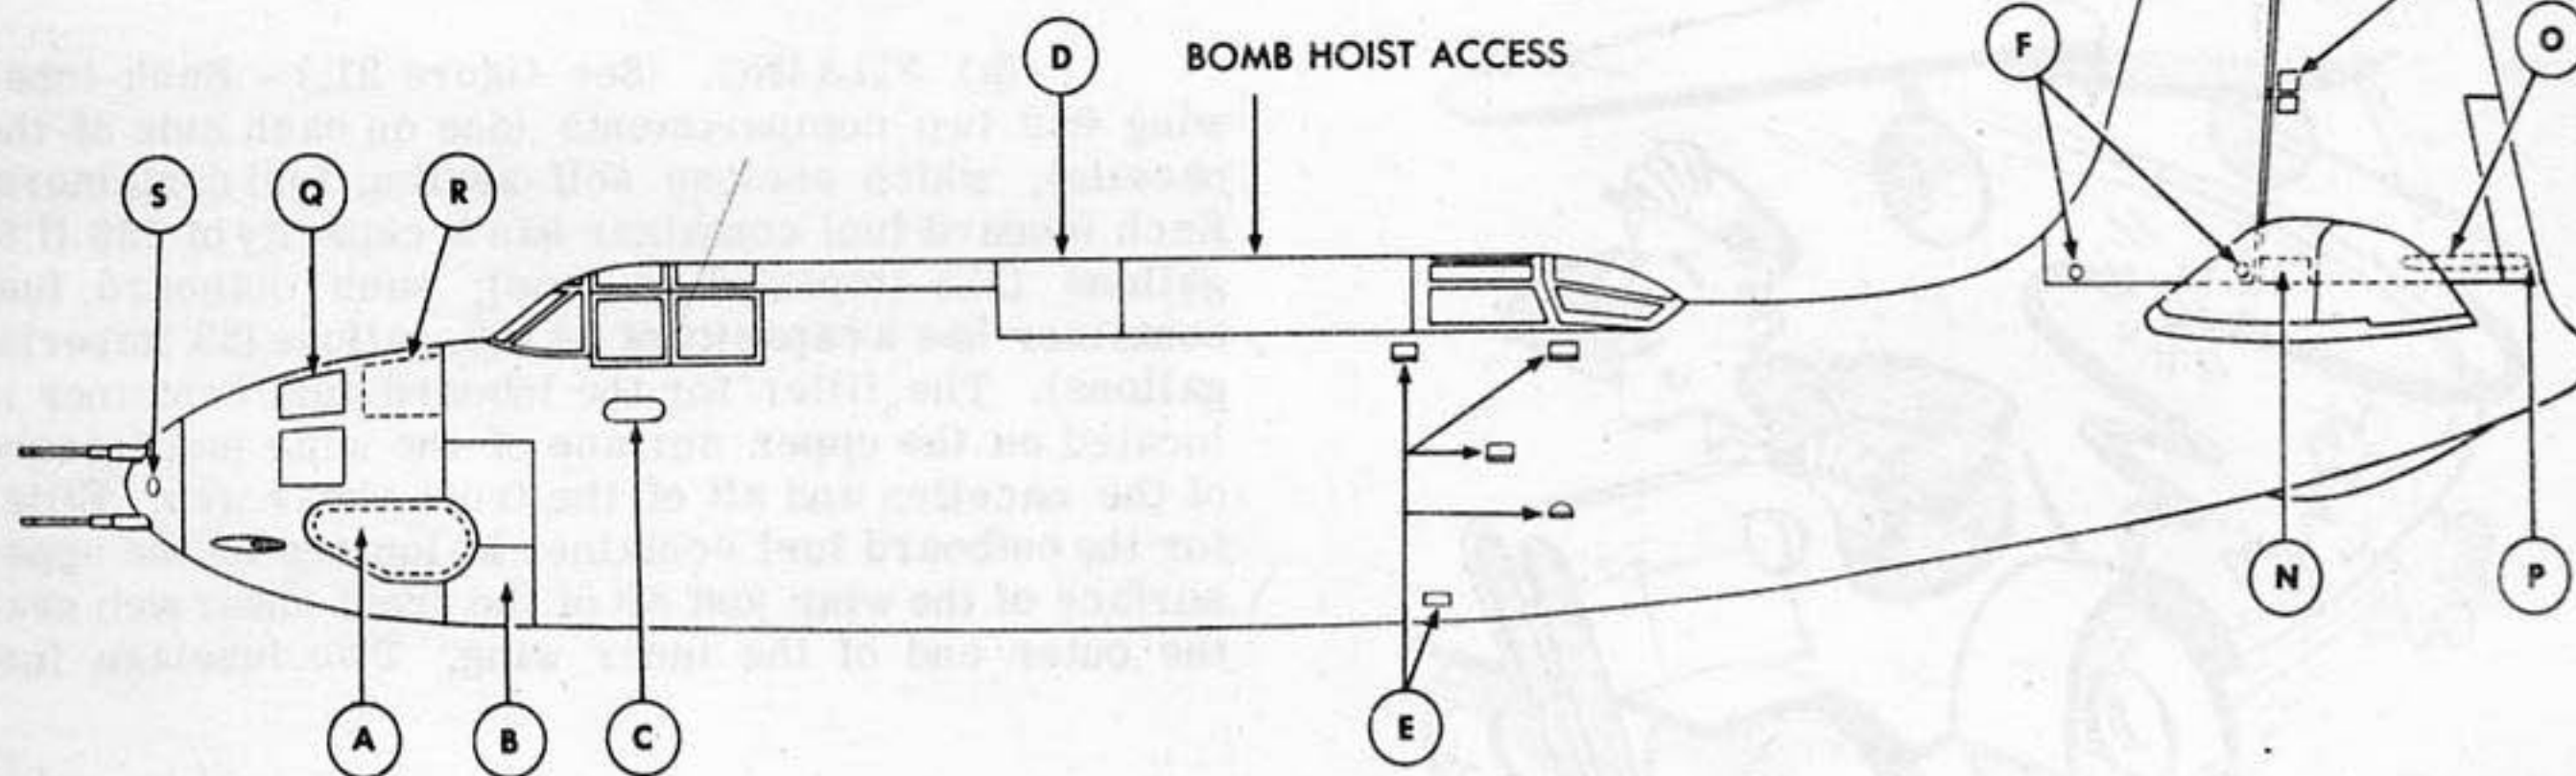

Figure 18 - FUSELAGE AND EMPENNAGE ACCESS DOORS
a. Easily removed inspection plates are located on the fuselage, empennage, wings, and nacelles. This permits access to parts needing periodic inspection, adjustment, or servicing. (See figures 18 and 19.)